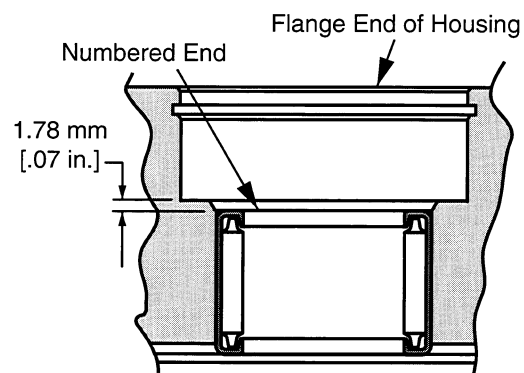

Figure 1-4
- Check the bearing (press fit) in front of housing. If needles remain in cage, move freely, and setting at the dimension shown in figure 1-4, removal not required.
**2** If necessary, press new bearing in housing to dimension shown in figure 1-4 with the numbered end of bearing outward.